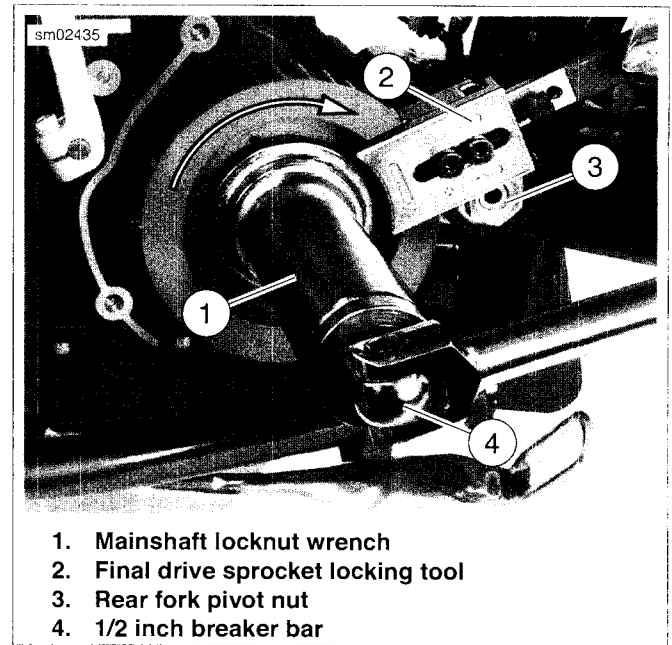

Figure 5-42. Sprocket Nut Installation (Typical)
3. See Figure 5-42. Lock transmission sprocket with the FINAL DRIVE SPROCKET LOCKING TOOL (Part No. HD-46282) (2). Final drive sprocket locking tool must rest against upper portion of rear fork pivot nut (3).
5. Using MAINSHAFT LOCKNUT WRENCH (Part No. HD-47910) (1), tighten sprocket nut to 35 ft-lbs (47.5 Nm) initial torque.